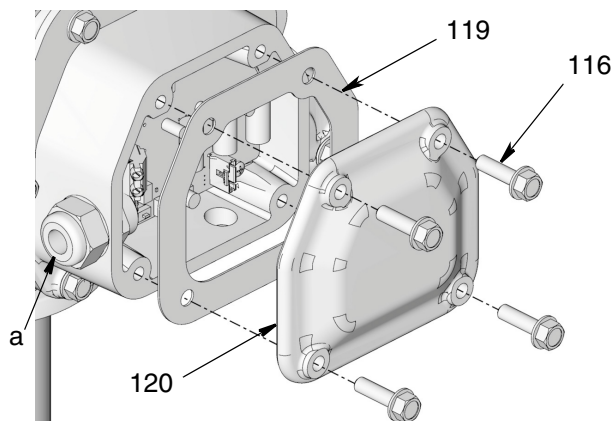

FIG. 12
1. Remove screws (116), cover (120) and gasket (119) to access motor lead wires (FIG. 12).